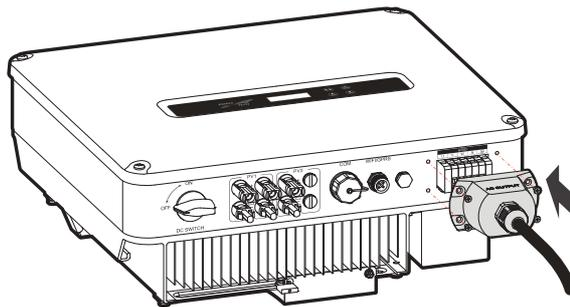

Figure3-24 Fasten the AC output waterproof cover
Step 3 After wiring, fasten the AC output waterproof cover to the inverter (as shown in Figure3-24) by four flat screw M4*12 and then screw the external AC output nut.